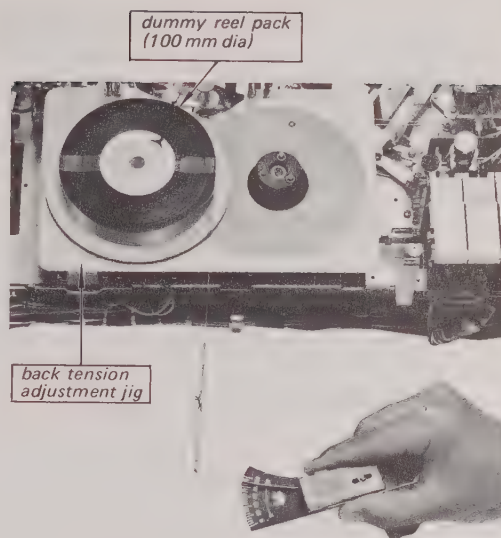

Fig. 5-15 (b). Drive torque check setup
3. Attach a spring scale to the end of the tape and hold the scale as shown in Fig. 5-15 (a).